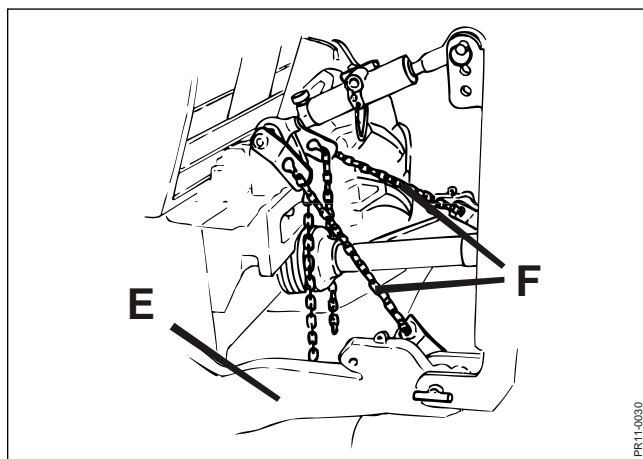

Fig. 4-5
**Fig. 4-5** Before the actual oil change you should lift the machine in the front hitch of the tractor and secure the position **E** of the link arms by means of the fastened support chains **F**. After this the cutting unit must hang freely in the suspension and you can give the cutter bar the correct inclination sideways by lifting it in the right-hand side.